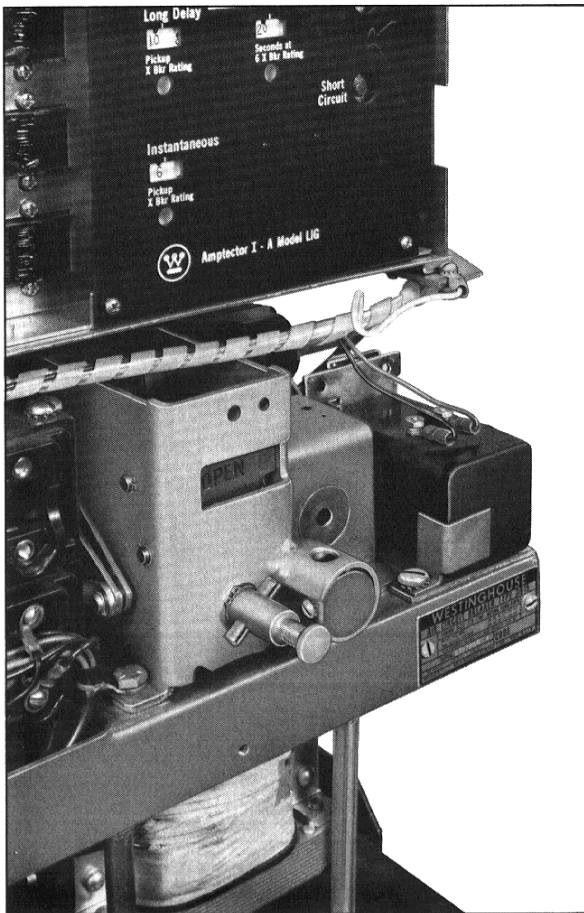

Fig. 17 Actuator Mounted on DB-15
- Using the Actuator as a template, drill and tap a .25-20 hole in the breaker platform at the left rear of the Actuator. Secure Actuator to platform using .25-20 x .5 sems screw, see Fig. 17.
5. Connect the green wire to the end of the right Ampdetector support bracket using .164-32 x .5 mach. screws, nuts and washers. This now grounds the sensor star point, see Fig. 17.